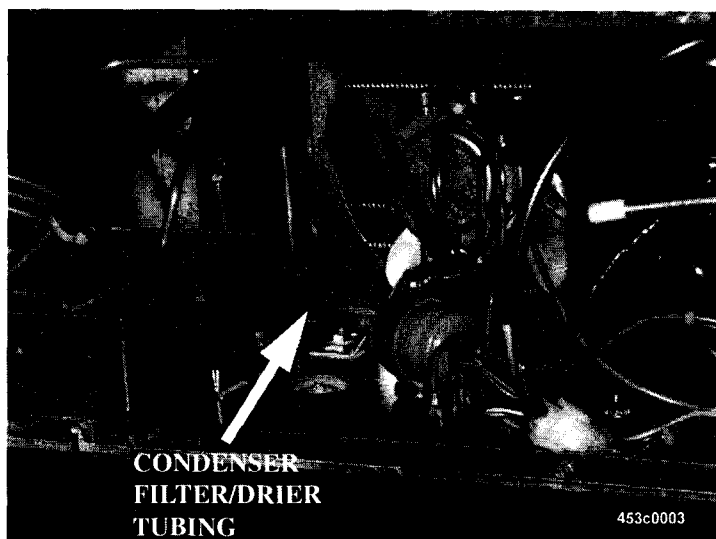

Figure 5
5. Install the new condensate pan (7644006) into the refrigeration module where the old condensate pan was located. The two vertical tabs in the chassis (one to the right and one to the back of the condensate pan location) may have to be bent down level with the chassis to allow insertion of the new condensate pan. Also, the tubing from the condenser to the filter/drier may have to be pushed towards the condenser fan to allow insertion of the new condensate pan; this can be accomplished by pushing slightly on the tubing (see figure 5).